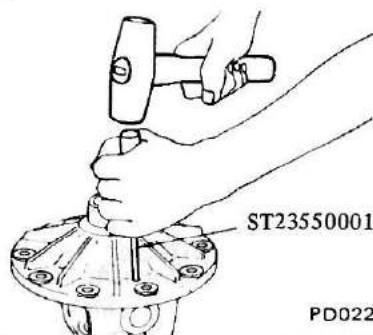

Fig. PD-13 Removing lock pin
3. Punch off pinion mate shaft lock pin from ring gear side using Solid Punch ST23550001. See Figure PD-13.